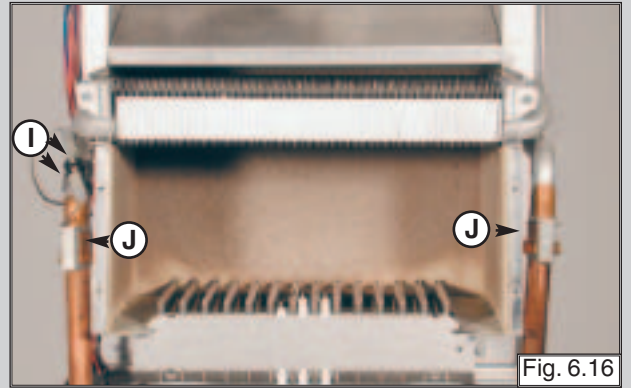

FIG. 6.16
3. Remove the overheat thermostat sensor "I" (FIG. 6.16);
4. Remove the clips "J" (FIG. 6.16);